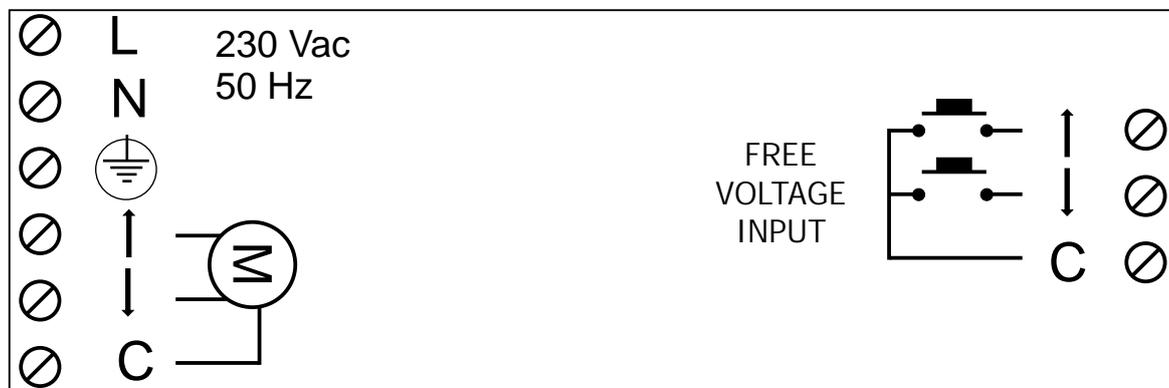

FIG 1
- Make the electrical connections with the power supply off. According to the attached drawing FIG 1.